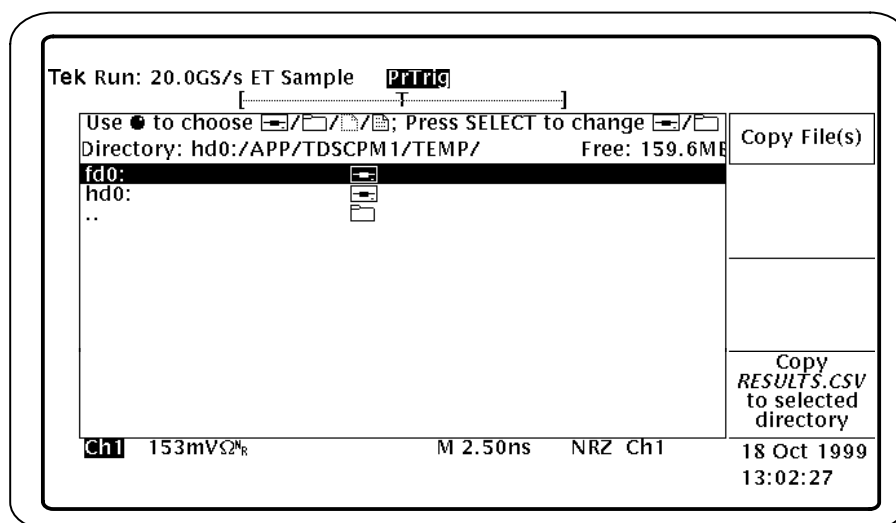

Figure 11: Copying the RESULTS.CSV file to a floppy disk
- h. Use the GP knob to highlight fd0:, and press Copy RESULTS.CSV to selected directory (side). Figure 11 shows this side menu item.